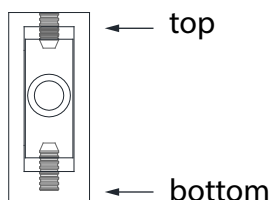

**Fig 16**
**16.** From inside the shower, measure up  $72\text{-}1/4''$  from the threshold and make a mark on the wall to the inside of the **U-Channel (#01)**. This will indicate the bottom position of the **Guide Rail Bracket (#06)**. (Fig 16)